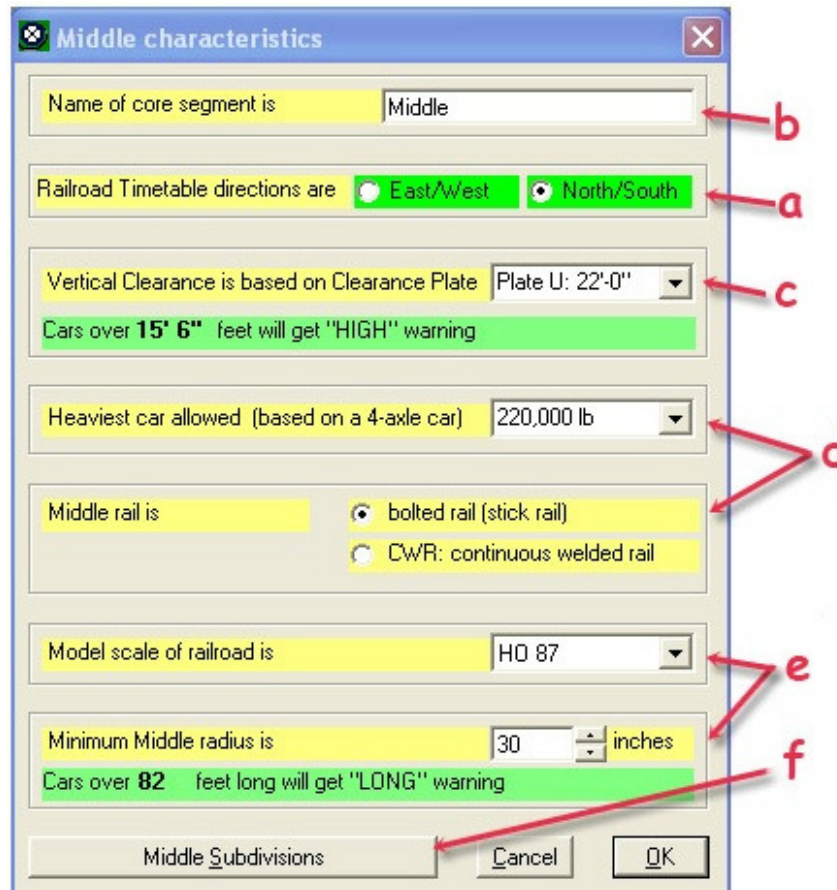

Figure 1-7
1. On the ProTrak toolbar, click on "Administration" then select "Core Segment Notes" (note that this may also show as "Middle Notes") from the dropdown list. The window shown in Figure 1-7 allows you set up some more of the 'tombstone' data for the railroad.